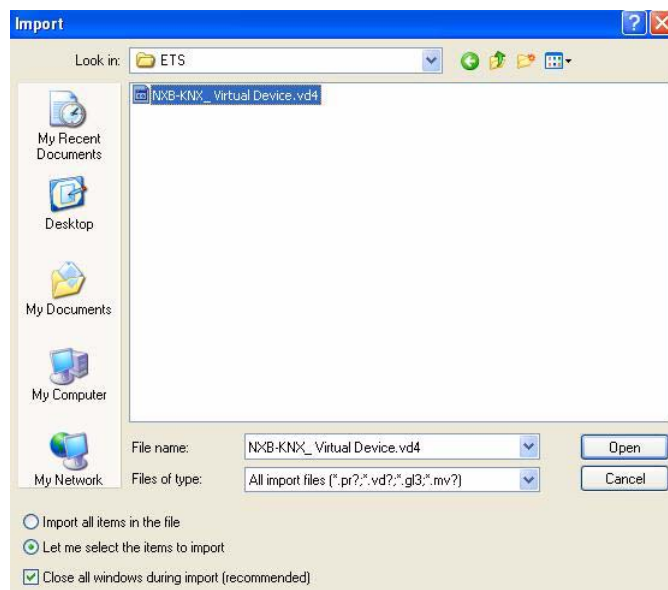

FIG. 22 ETS3 - Import dialog
2. Select **File > Import** to invoke the *Import* dialog (FIG. 22):